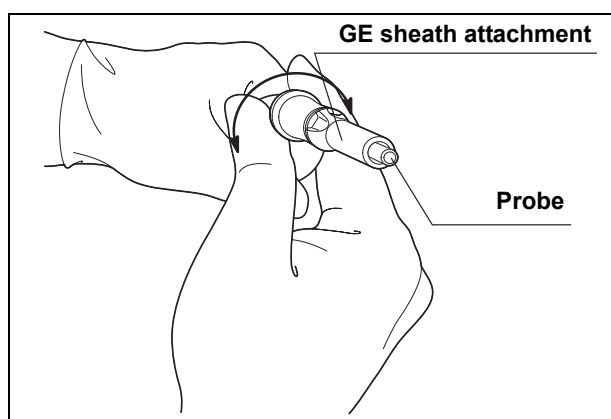

Figure 4.7
3. Before inserting the transducer, align the angled portions of the probe and sheath. After insertion, adjust the relative positioning between the probe tip and the sheath by rotating the sheath with respect to the transducer so that the sheath and probe are not in contact (see Figure 4.7).